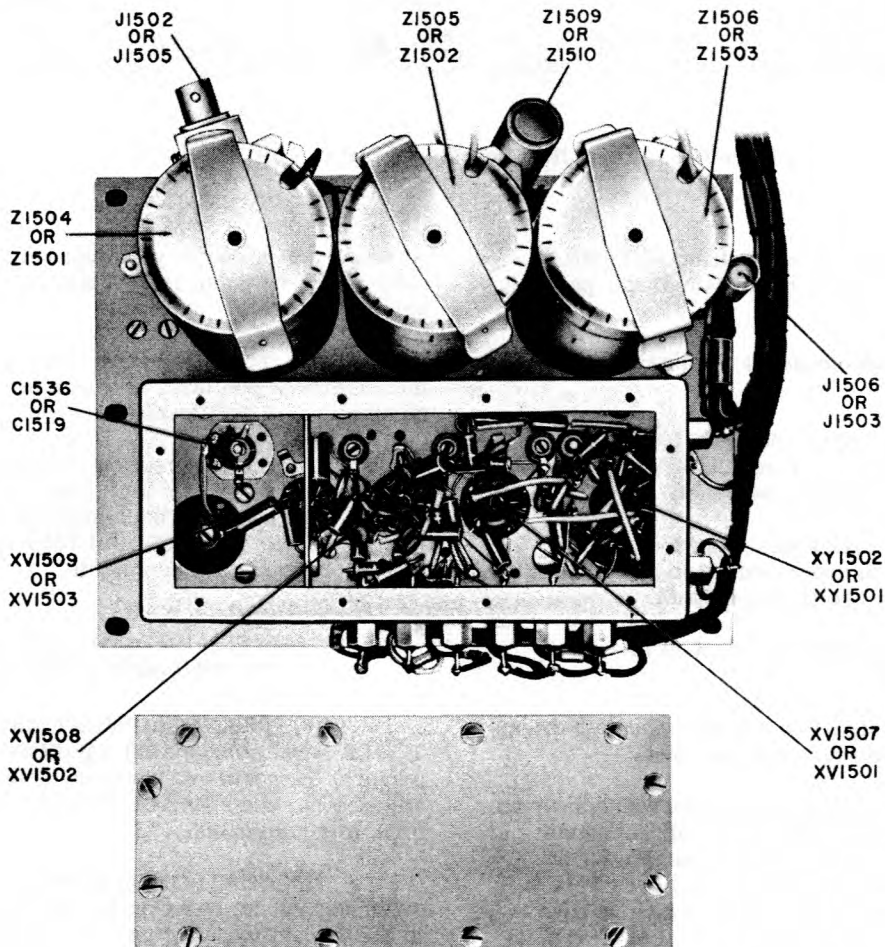

Figure 6-4. Frequency Multiplier-Oscillator CV-1171/GRN-9D, R-F Chassis, Bottom View
Step 3. Loosen screw located on side of pick-up probe J1505 and move probe on tripler cavity V1504 (figure 6-4) in or out, as necessary, to obtain required readings. Tighten screw.
(2) SQUITTER CIRCUIT CHECK AND ADJUSTMENT.